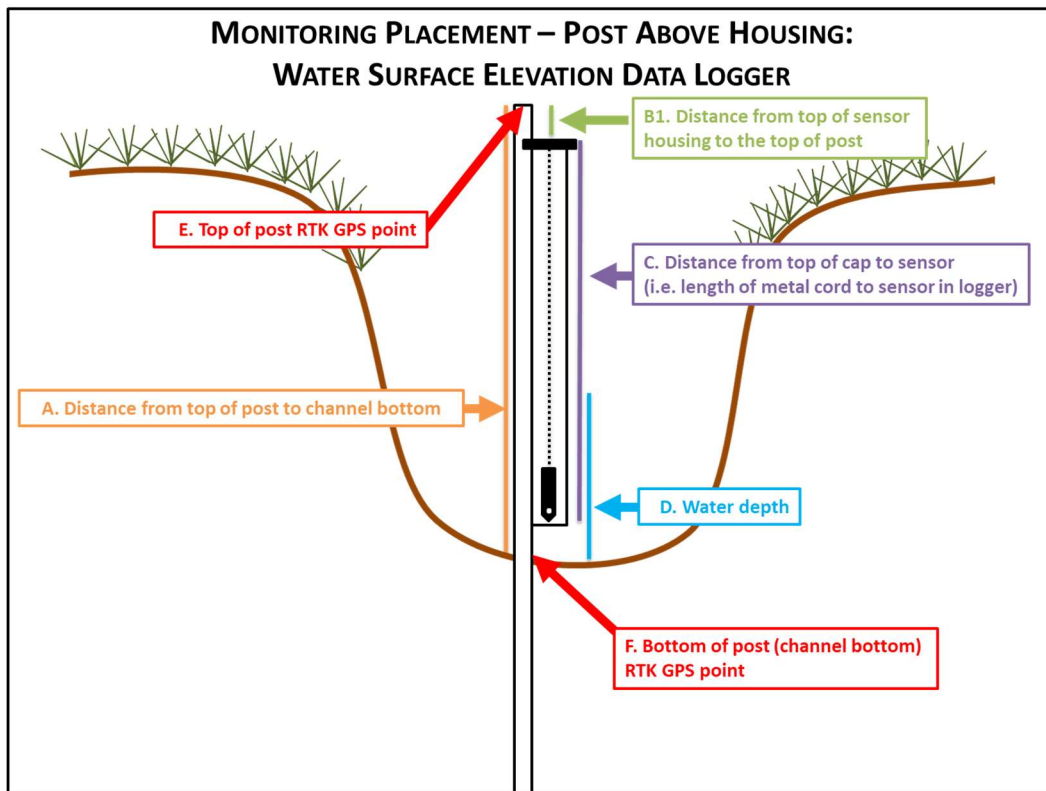
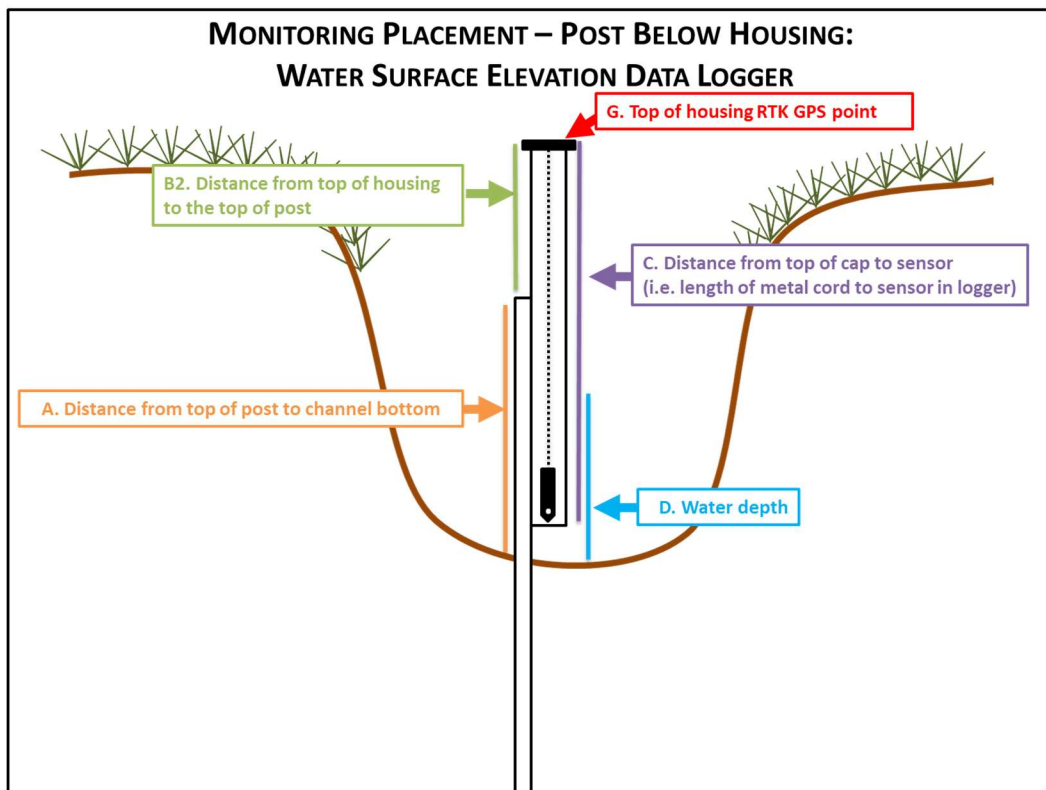

Figure 2: Measurements when data logger housing is below placement post.
Figure 3: Measurements when data logger housing is above placement post.
- B. (B1) Distance from top of sensor housing to the top of post (Figure 2) and if post is shorter than housing (Figure 3) then measure (B2) from housing cap to top of post
The data collected during data logger installation and retrieval can be used to identify if the data logger housing has shifted during deployment and are used to determine the elevation of the data logger and the depth of water above the data logger for post-processing. Below are some methods for calculating various water surface elevations or water depths depending on measurements taken in the field. Reference letters correspond to measurements illustrated in Figure 3.
- Post is taller than data logger housing (Figure 2):
- Data logger housing is taller than post (Figure 3):